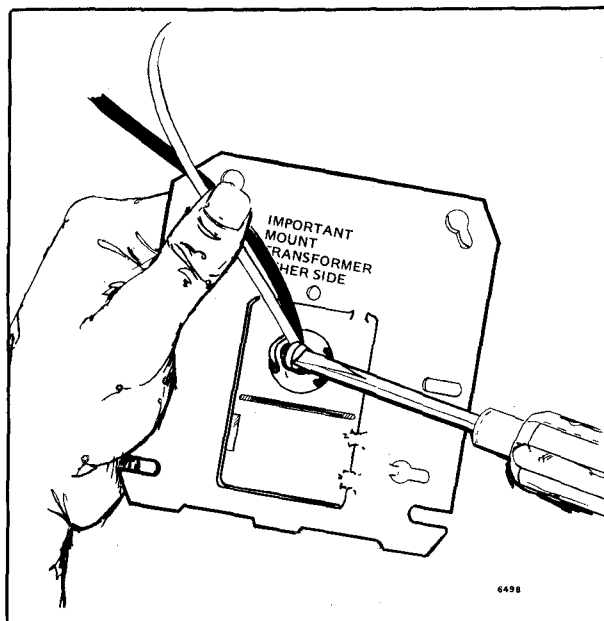

FIG. 19—TIGHTEN CLAMP SECURELY AGAINST RIM OF ROUND HOLE.
3. With plate in place over clamp, tighten screw securely against rim of round hole. See Fig. 19. Avoid damaging the leadwires with the screwdriver.
2. Tighten clamp screw securely against rim of knockout (Fig. 19). Avoid damaging the leadwires with the screwdriver.